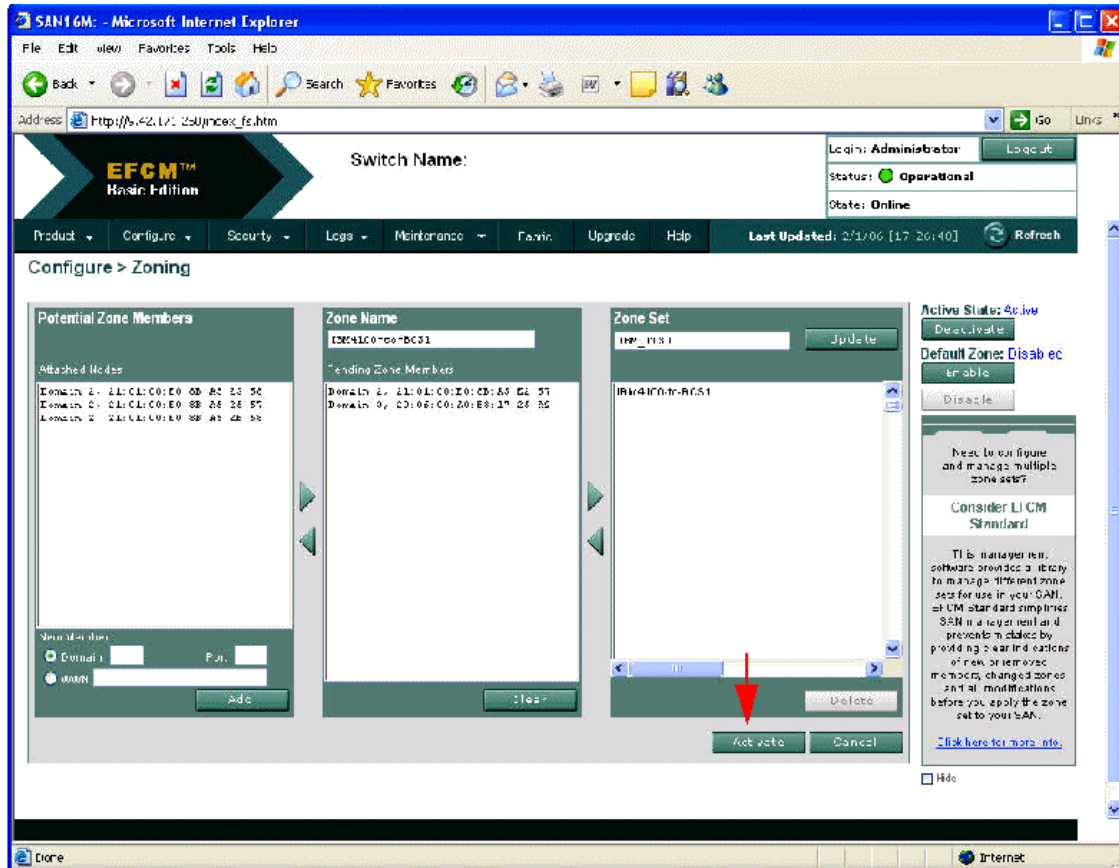

Figure 6-21 Configure → Zoning window
16. Once you have completed creating the desired zones with their members, click **Activate** to activate your zone set and zones, as shown in Figure 6-21.